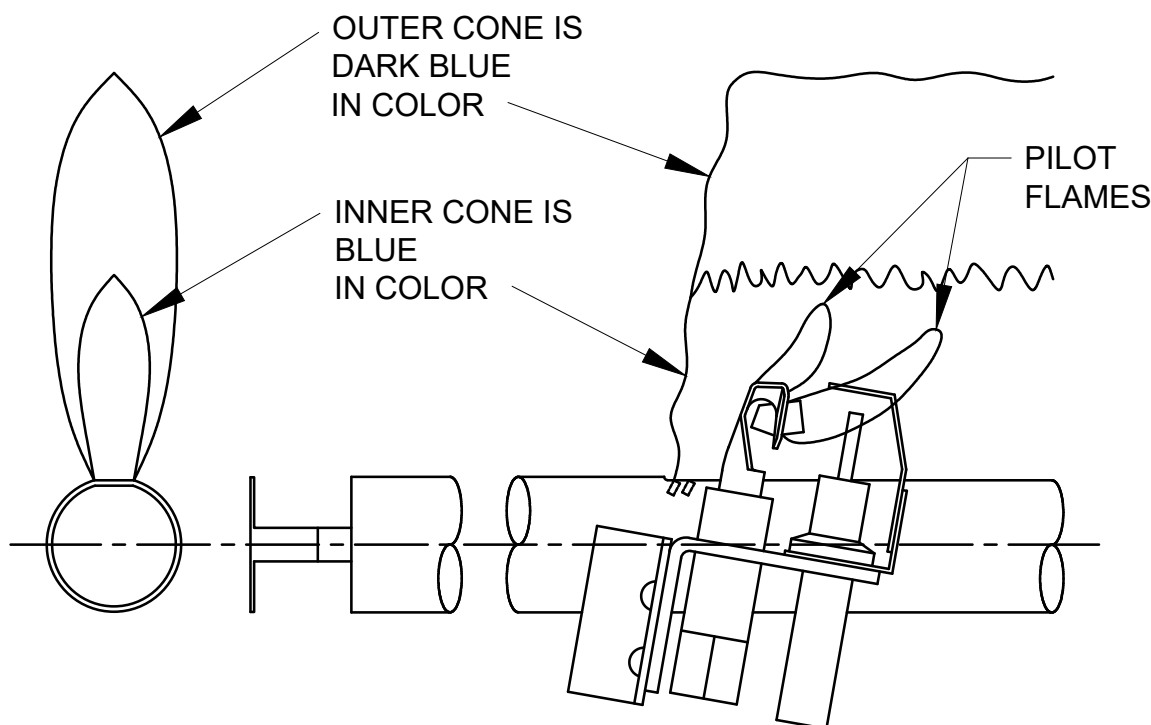

Figure 9.1: Intermittent Pilot and Main Burner Flame
3. Check the pilot and main burner flame. See Figure 9.1. The pilot should provide a steady flame enveloping $3/8"$ to $1/2"$ (1 cm to 1.2 cm) of the flame sensor. If required, adjust the pilot as stated in the gas valve manufacturer's instructions. The main burner flame inner cone should be approximately $1-1/2"$ (4 cm) high and should have a very sharp, blue color characteristic. On LP gas models equipped with air shutters, see Section 7 and Figure 7.9 for checking and adjusting air shutters.